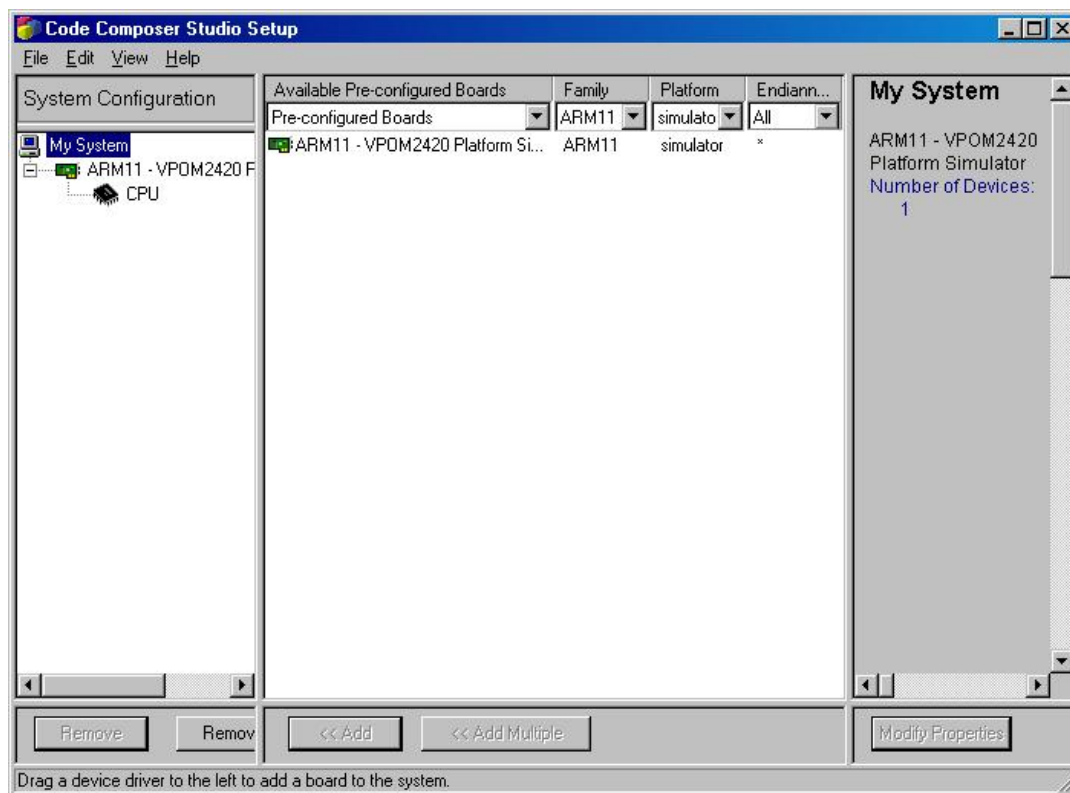

Figure 4. CCStudio Setup Configuration for ARM11 Simulator in VPOM2420
2. From the middle pane of CCSetup, select the Pre-configured Boards option. Select the ARM11 family and simulator platform. Then select the configuration, ARM11-VPOM2420 Platform Simulator from the Available Pre-configured Boards column and add it to the system. Finally, save the selection. Figure 4 shows a screenshot of the setup after importing the configuration.